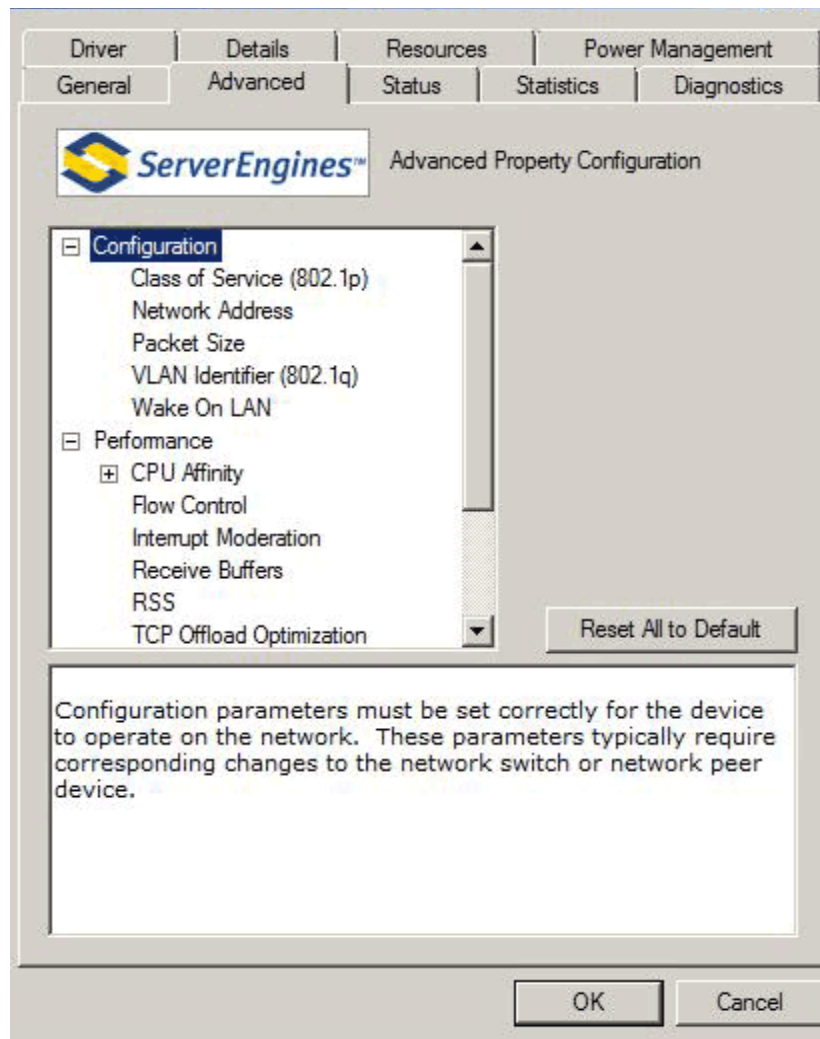

Figure 3: NIC/TOE Advanced Properties in Windows Server 2003 and Windows Server 2008
5. Click **OK**. Figure 3 is an example of the Advanced tab.